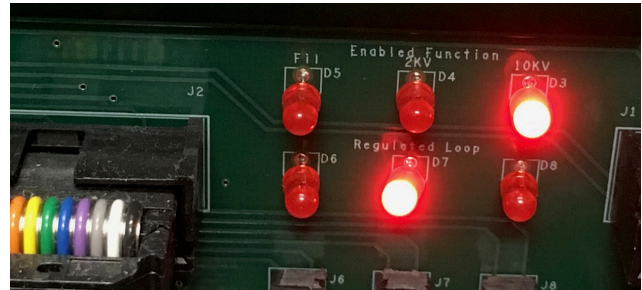

Figure 3 LED indicator lights for I_{fil} , I_{2KV} , I_{10KV}
- b. Pull the box about 6 inches out of the rack and slide the cover back, Figure 2. Note the 6 red LEDs on the vertical board mounted to the inner bulkhead, Figure 3. They are a little left of center at the top. The first column indicates the filament ramp status. The second column indicates the 2KV status and the third column indicates the 10 KV status. The top light in each column indicates that that function is enabled. The lower LED indicates the control loop is regulating on I_{Fil} , I_{2KV} or V_{10KV} . This will become more interesting as we proceed.